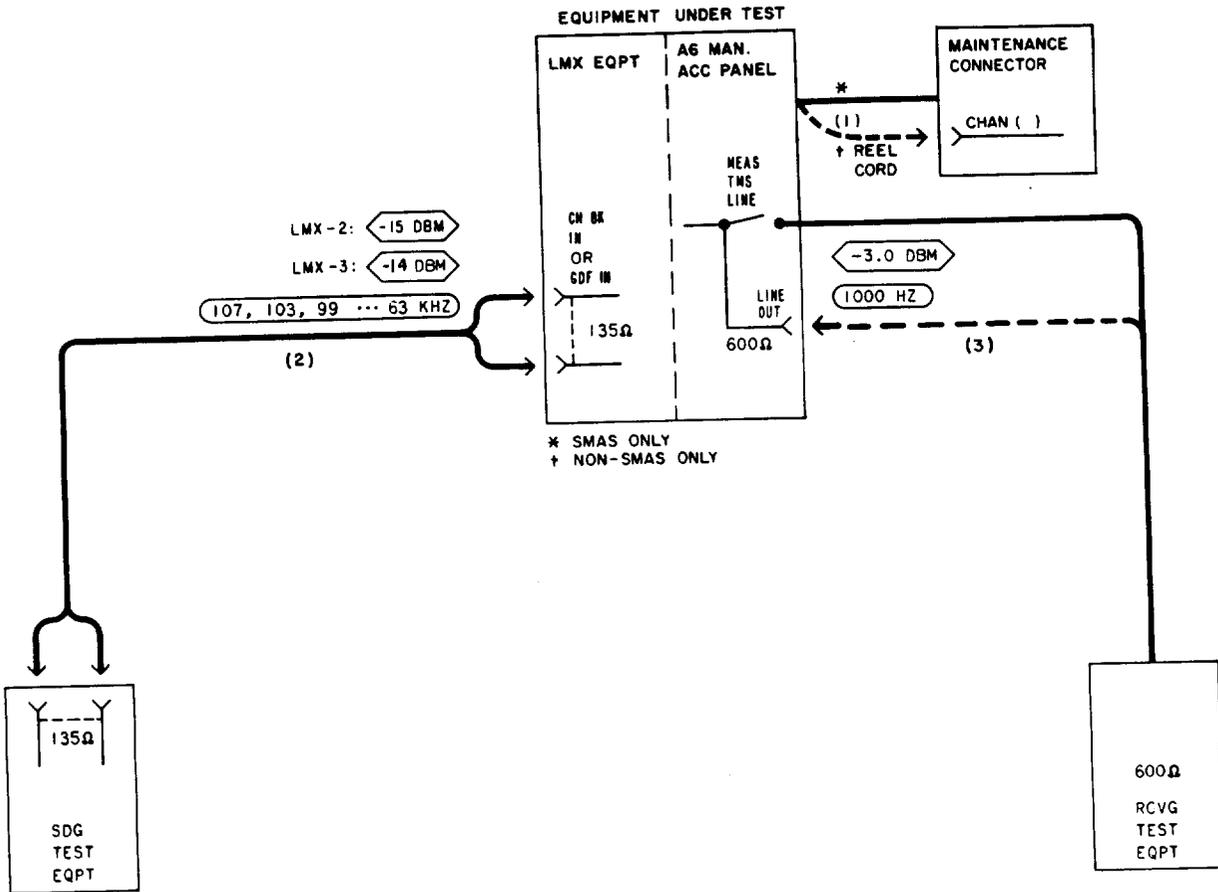

Fig. 5—Patching Diagram—Receiving Level Adjustment
2b†	Connect the retractable cord (on the 22AU MAP) to the CHAN BANK connector (on the maintenance connector) for Channel 1 [patch (1), Fig. 5].
- 5 At the LMX equipment, connect the STE to the CH BK IN (LMX-2) or GDF IN (LMX-3) jack [patch (2), Fig. 5].
Note: If the T&NMS is not available via the MEAS TMS LINE switch, connect the RTE to the LINE OUT jack [patch (3), Fig. 5].
- 10* If used, remove patch (3), Fig. 5.
- 11† Remove the retractable cord (on the 22AU MAP) from the channel under test [patch (1), Fig. 5].
- 13 At the LMX equipment, remove patch (2), Fig. 5.
16†	If used, remove patch (3), Fig. 5.